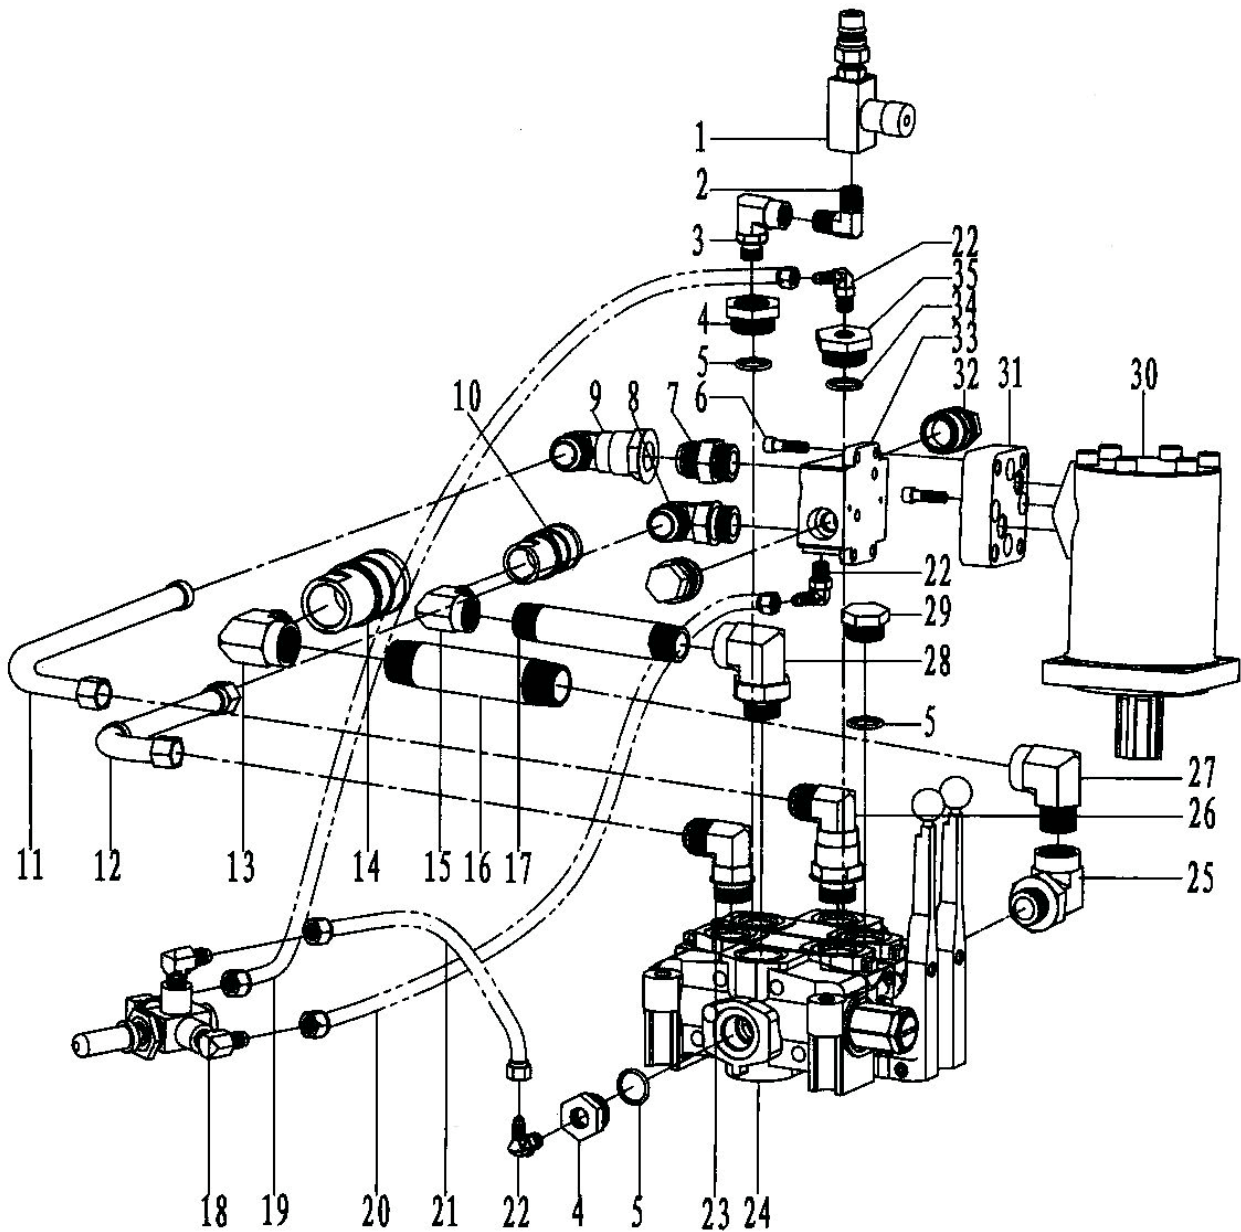

Fig 25
**7.19 Hydraulic valve bank assembly (plate type motor) (Fig 25, Table 19)**